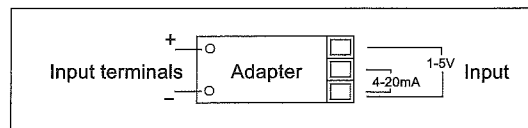

Fig.2
9. LINEAR INPUT ADAPTER WIRING DIAGRAM (See Fig.2)